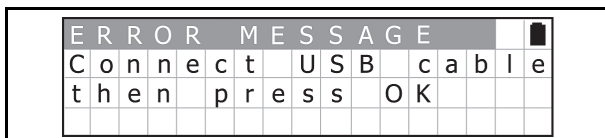

Figure 29 Standby Screen 2
3. Make sure that the LCD displays the Standby Screen shown in Figure 29.